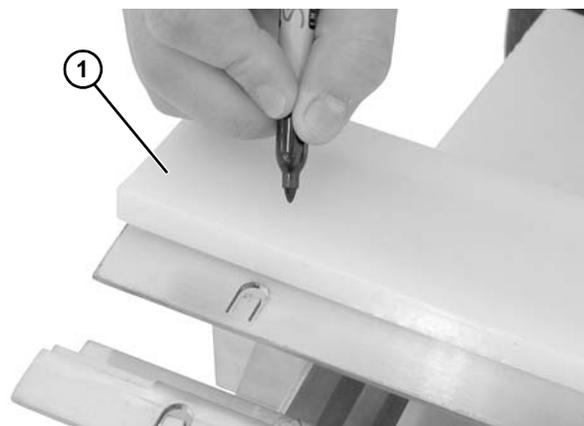

Figure 34
1. Position new wear strips (**Figure 34, item 1**) on conveyor. Mark tab locations and cut to length.